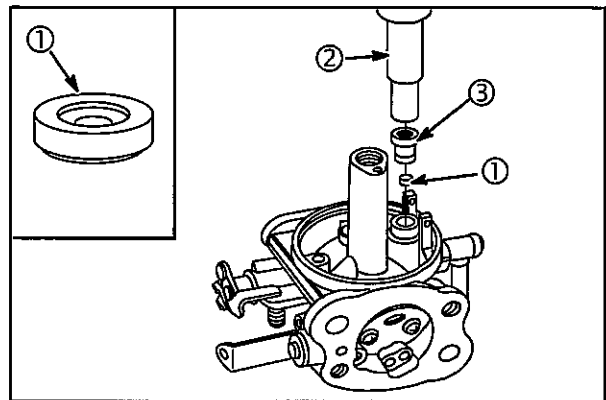

Fig. 51
1. Install new inlet seat (1) with chamfered end down, **Fig. 51**.
2. Press in new body (3) using Knockout Pin #19135 (2).